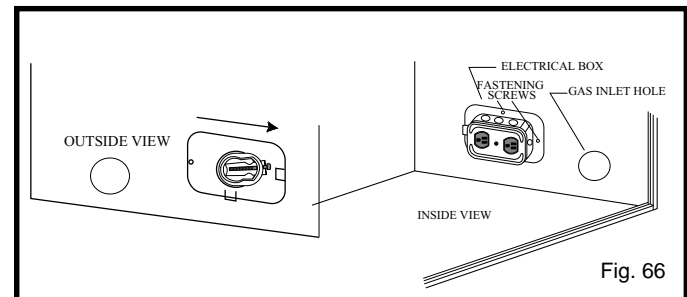

Fig. 66
- Remove 2" knock out. Slide the electrical box back plate into the back and bottom lances (clips) while fitting the box connector into the knock out. Fasten into place with fastening screws provided. Fig. 66.